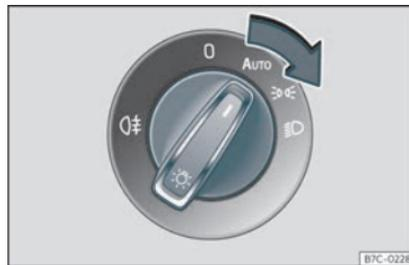

Fig. 87 Dash panel: lights control.
- Turn the switch to the required position **>>> Fig. 87.**